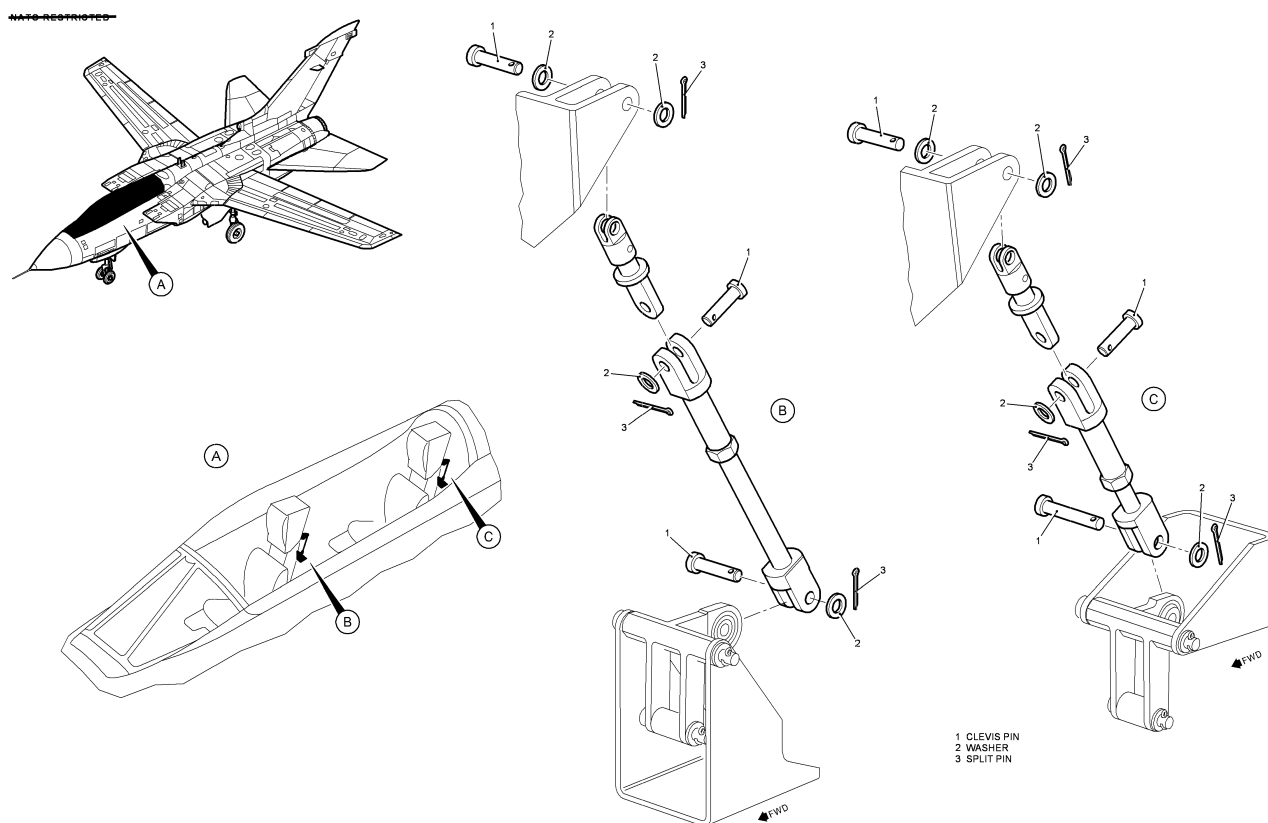

Fig. 11. MDC Trip Rods
- (iv) Ensure clevis pins (1), washers (2) and split pins (3) are orientated as shown (Chap. 29-10, MP 29-10/3, Fig. 11)